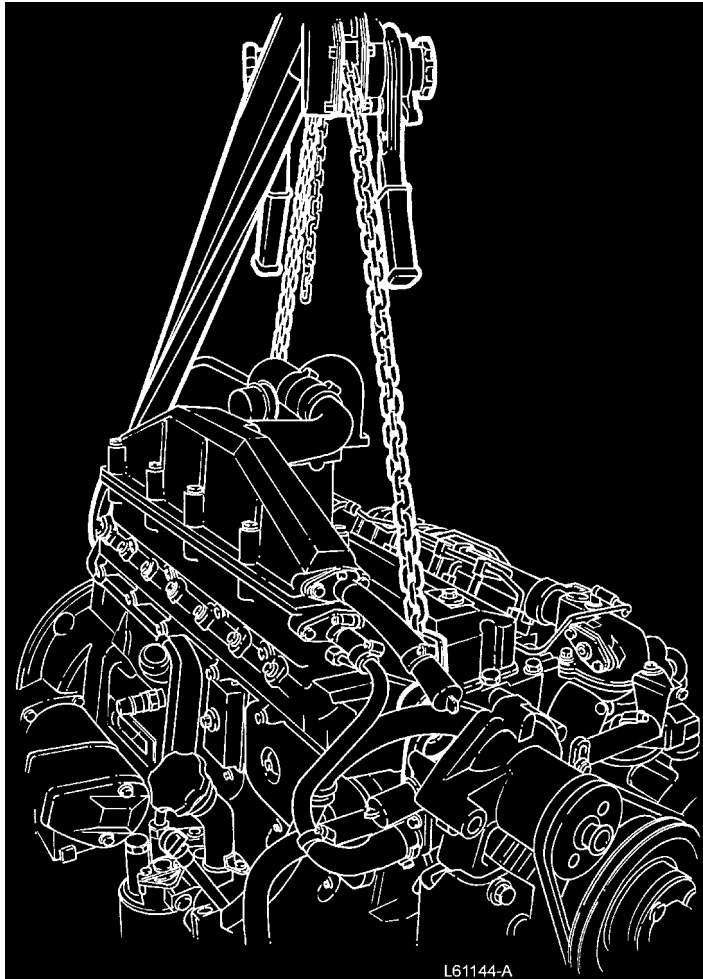

Figure 5
16. Lift the rear end of the engine with the aid of the ratchet block, see Fig. Figure 5.